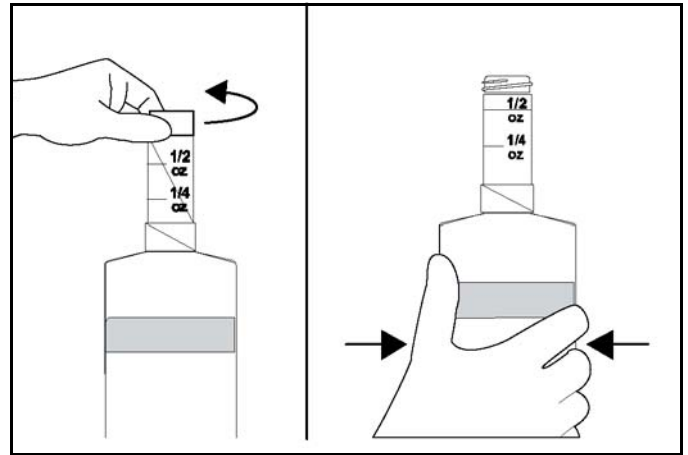

Figure-113
20. Remove the cap from the dosing bottle and squeeze the bottle to fill the dosing cup to 1/2 oz. as marked. See Figure-113.